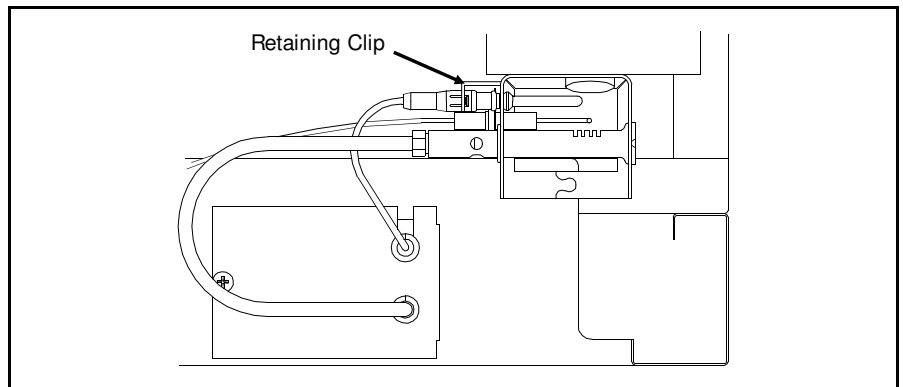

Figure 3.26 Thermocouple in Proper Position
2. When the burner ignites and then goes out, this can be caused by (1) thermocouple not positioned properly in the flame or (2) retaining clip not properly installed. See Figure 3.26.